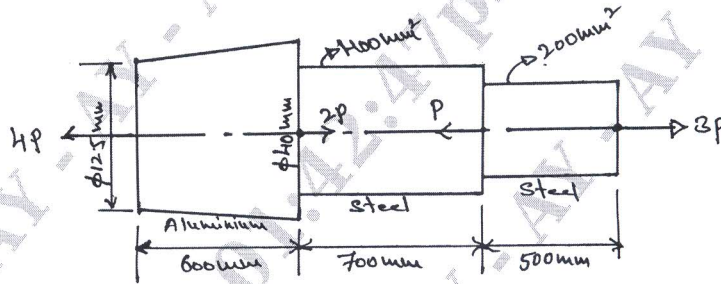

Fig.Q.1(c)
- c. A round bar with stepped portion is subjected to the forces as shown in Fig.Q.1(c). Determine the magnitude of force P, such that net deformation in the bar doesnot exceed 1mm. E for steel is 200GPa and that of aluminium is 70GPa. Big end diameter and small end diameter of the tapering bar are 40mm and 12.5mm respectively. (08 Marks)